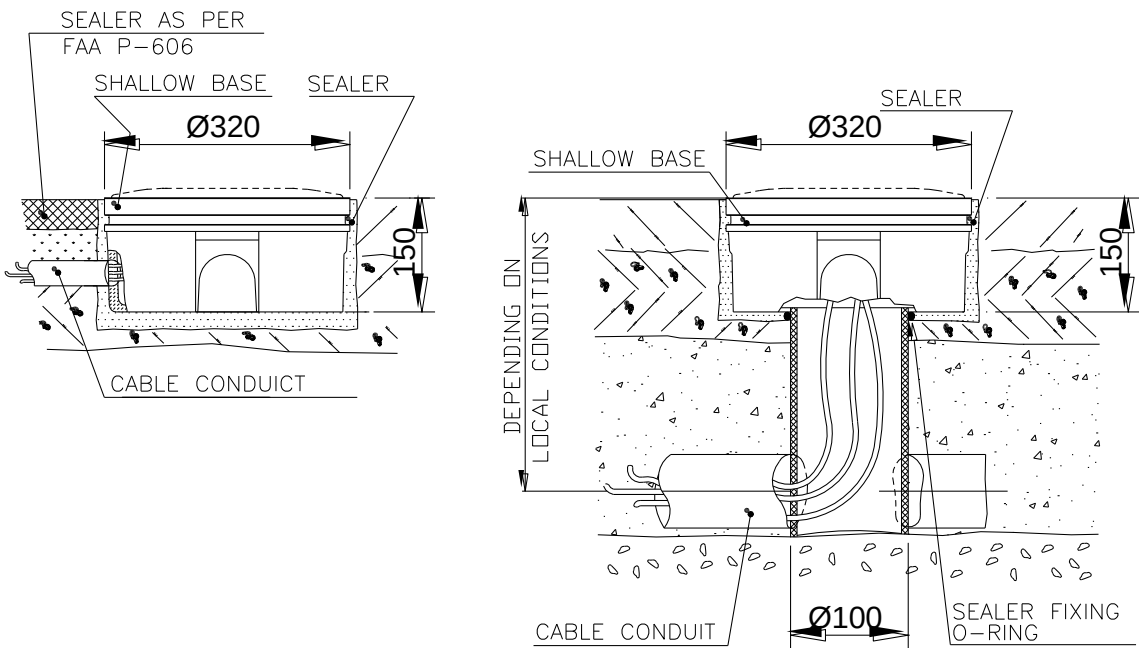

Figure 16 – 12” shallow base for side or bottom ducts (method “B”)
- ▣ Method “B” – cable leads to be laid in cable ducts (Figure 16)
| 10   | / | ▣ | <p>Observing the circular level fixed on the jig, level the jig by operating the three leveling lobe knobs (Figure 17). If necessary, a weight may be placed on the jig to hold the light base in position.</p> <p>When the shallow base is in its final position, the conduit(s) must be properly jointed to the hole(s) provided on the shallow base. This(these) hole(s) can be provided either on the wall either on the bottom, the number and the dimensions according to customer requirements ( and Figure 16).</p> <p>The remainder of the space between the sides of the shallow base and the drilled hole should be filled with sealer up to approx 25 mm from the pavement, according to the local needs.</p> <p>Fill the remaining 25 mm with a suitable joint sealing filler.</p>                                                                                                                                                                                                                          |